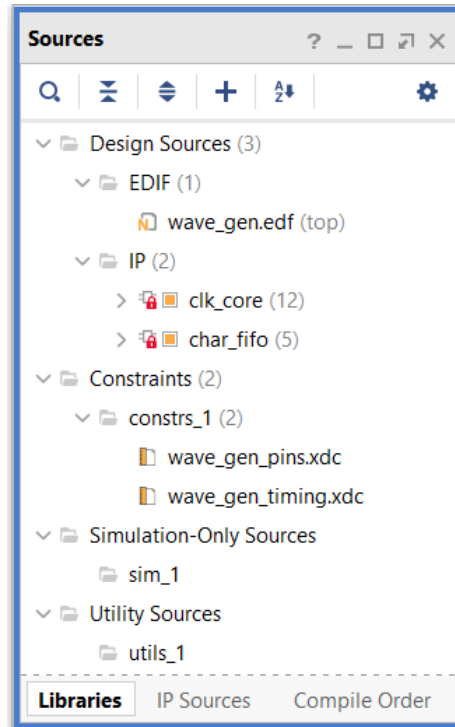

Figure 34: Project Sources
11. Expand the sources window as shown in Figure 34, to see the netlist, IP, and constraints that comprise the project.